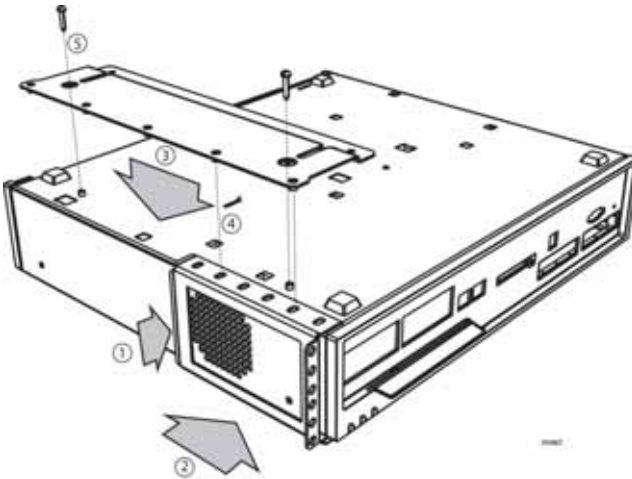

Figure 17: CX/CXi Controller Rack-Mount Bracket Installation
2. Turn the cabinet over and place the bracket on the left side of the cabinet as shown in Figure 17. The farther you position the bracket back from the front of the cabinet, the farther the cabinet will protrude from the rack.